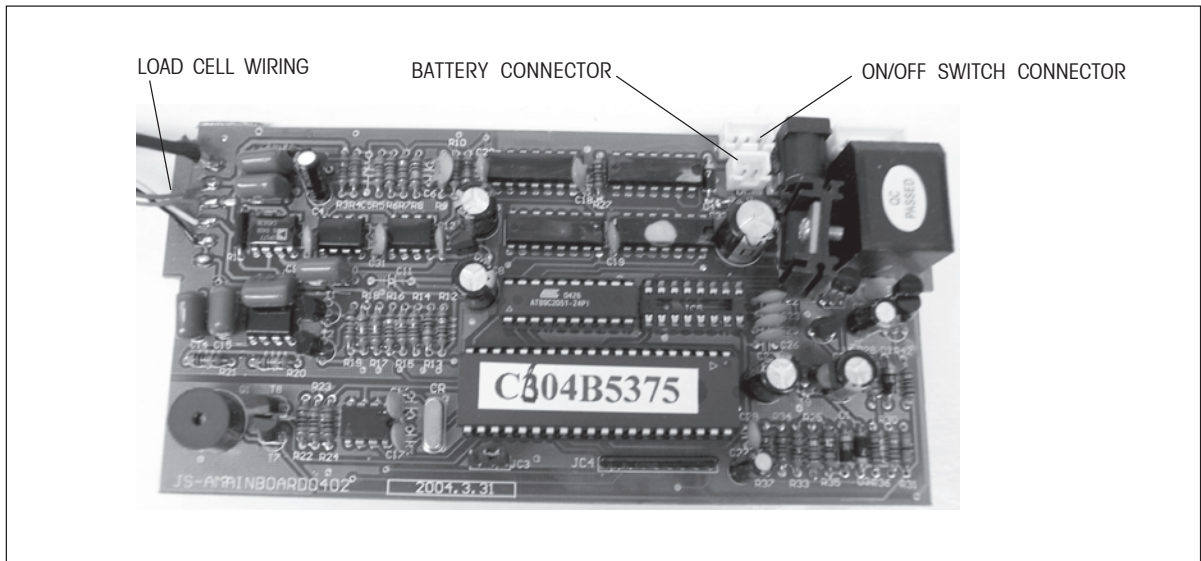

Figure 4-7. Disconnecting Battery and On/Off Switch Connectors from Main PC Board.
6. Remove the Battery connector plug from the Main PC Board and the connector that connects to the On/Off Switch. See Figure 4-7.